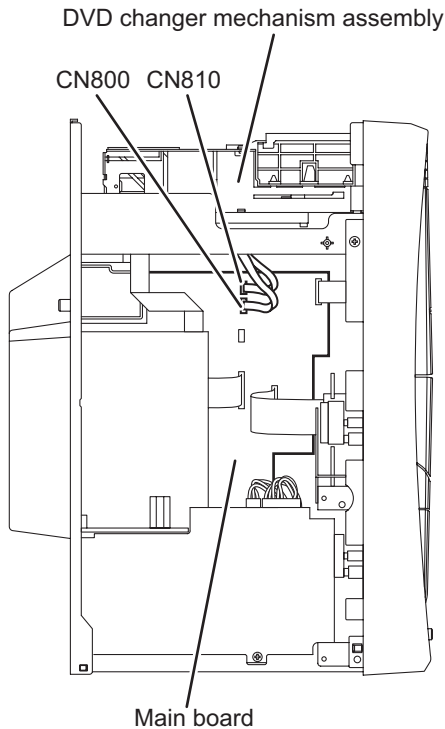

Fig.7
3.1.4 Removing the DVD changer mechanism assembly (See Fig.7 to 9)
- (1) From the left side of the main body, disconnect the card wires from the connectors (CN800, CN810) on the main board. (See Fig.7) **[For DX-T99, DX-T77]**
- (2) From the left side of the main body, disconnect the card wires from the connector on the CN800 on the main board. (See Fig.7) **[For DX-T66]**